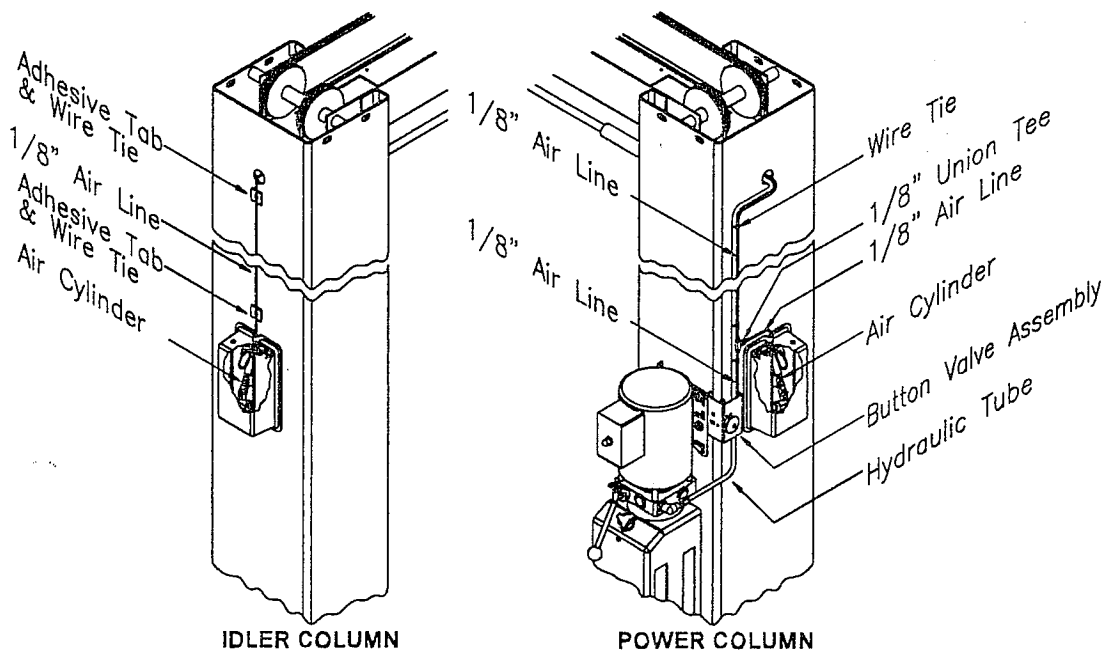
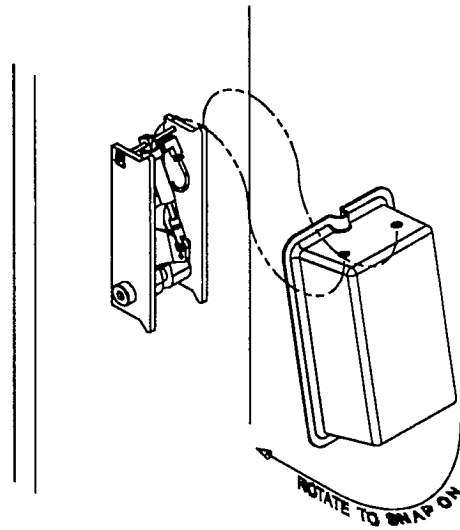

Fig 9
Fig 10
12. Connect 1/8" air line as shown in **Figure 9** from button valve assembly to union tee. Connect 1/8" air line from air cylinder to union tee. Connect 1/8" air line from union tee following hydraulic tube using wire ties up power column to overhead. Routing through hole in power column still following hydraulic tube to idler column. Route through hole in idler column down column using adhesive tabs and wire ties to air cylinder. Be certain not to kink or pinch the hose. Connect the button valve to a source of **clean, dry air** using the hose barb and clamp provided. Snap the covers onto the column. **See Figure 10.**